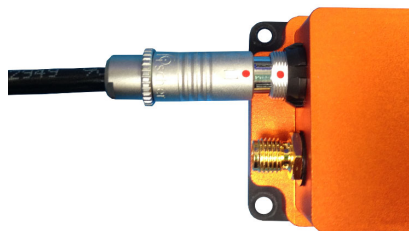

Figure 1-10. Align Red Dots, LEMO and IMU.
- e. Hold the IMU cable, take the LEMO connector and align the red dot on the LEMO connector to the red dot on the IMU connector, shown in Figure 1-10.